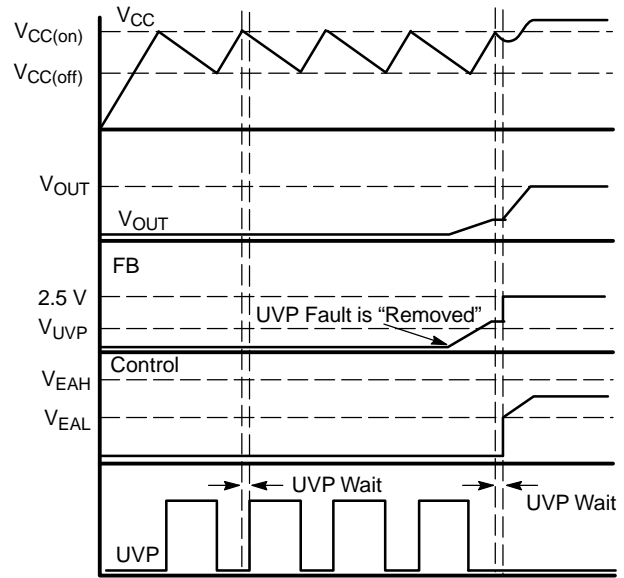

Figure 36. The NCP1607's Startup Sequence with and without a UVP Fault
Furthermore, the NCP1607 incorporates a novel startup sequence which ensures that undervoltage conditions are always detected at startup. It accomplishes this by waiting approximately 180  $\mu\text{s}$  after  $V_{\text{CC}}$  reaches  $V_{\text{CC(on)}}$  before enabling the error amplifier (Figure 36). During this wait time, it looks to see if the feedback (FB) voltage is greater than the UVP threshold. If not, then the controller enters a UVP fault and leaves the error amplifier disabled.